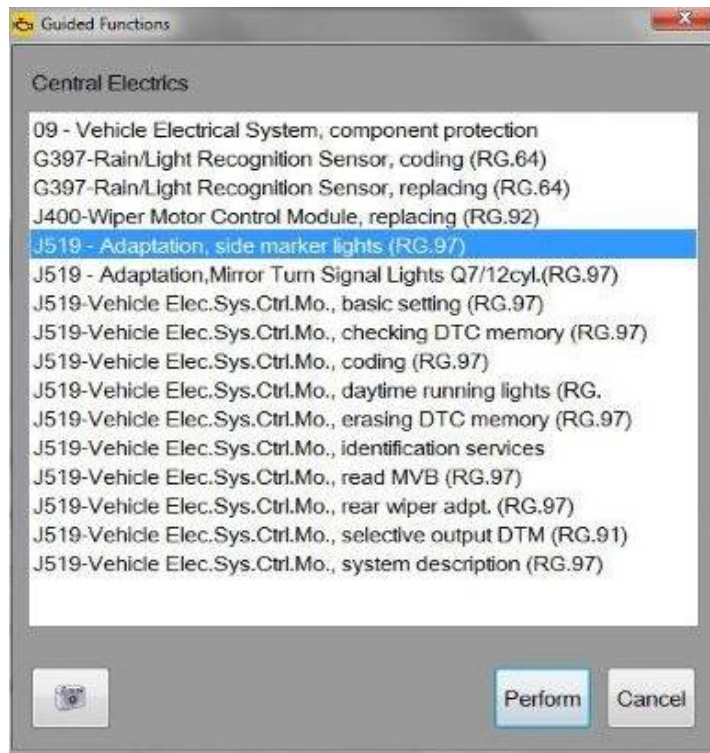

Figure 2. Selecting test plan **J519-Adaptation, Side marker lights (RG.97)**.
3. Select test plan **J519-Adaptation, Side marker lights (RG.97)** (Figure 2), then click **Perform**.